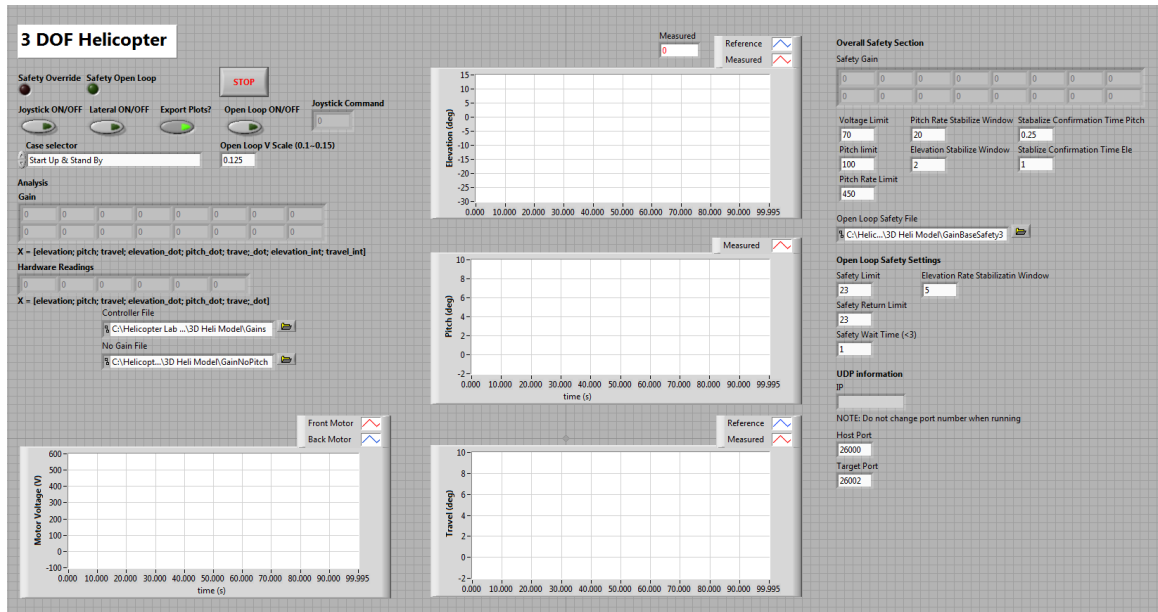

Figure 3: LabVIEW VI used to run the closed-loop controller on the 3 DOF Helicopter.
- Open the **Main 3D HELI Control VI** (figure 3), that is used to run the 3 DOF Helicopter experiment.
2. In the Main 3D HELI Control VI (figure 3), configure the panel with Joystick OFF, Lateral OFF, Export Plots ON and Open-Loop Off. Make sure the Case selector is at Start Up & Stand By